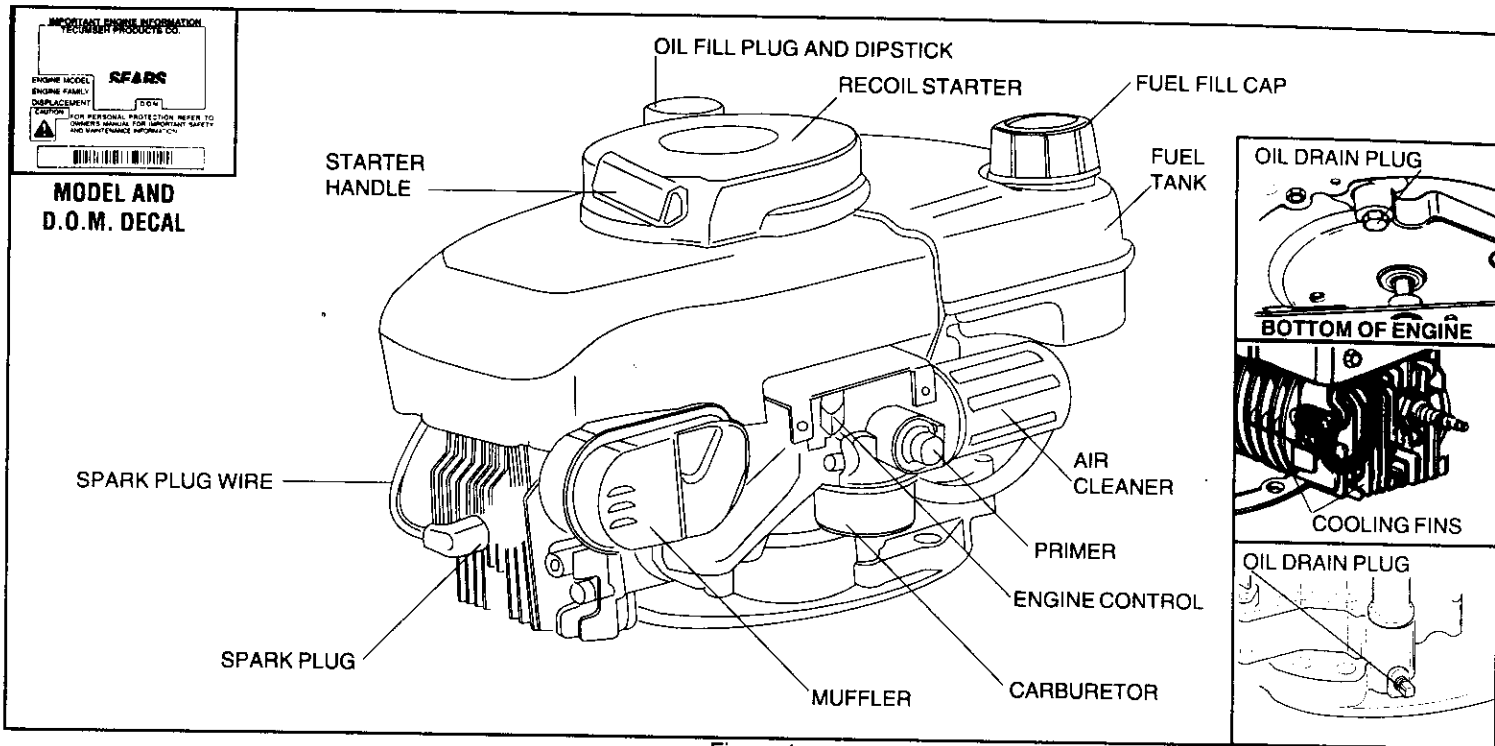
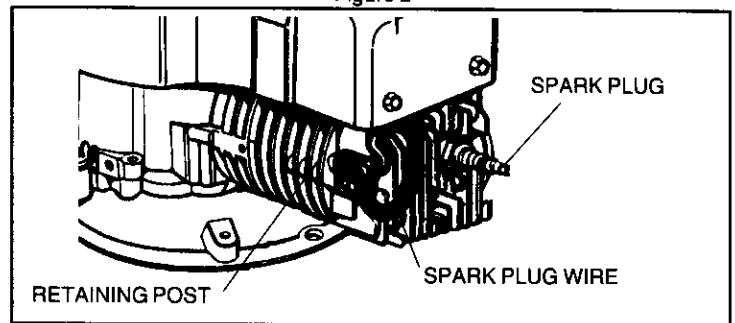

Figure 1
Figure 3
- Clean area around oil fill plug (see Figure 1).
- ④ **CHECK THE FOLLOWING:**
B. Be sure spark plug wire is attached to spark plug (see Figure 1).
- ① Move ENGINE CONTROL (see Figure 1) to HI Position.
- ② **START ENGINE WITH PRIMER:**
2. The carburetor on your engine has been completely adjusted at the factory. When starting a cold engine, push primer button **firmly with your thumb 3 times**, allowing primer bulb to return completely to original position between pushes (figure 1). Below 55°F additional primes may be needed.
ENGINE SPEED: Engine speed is controlled by the ENGINE CONTROL see Figure 1).
- ① Move ENGINE CONTROL (see Figure 1) to STOP.
- ② **AFTER ENGINE IS STOPPED:**
A. DISCONNECT SPARK PLUG WIRE FROM SPARK PLUG AND ATTACH IT TO RETAINING POST (see Figure 3).
C. Remove oil drain plug and oil fill plug to drain oil (see Figure 1).